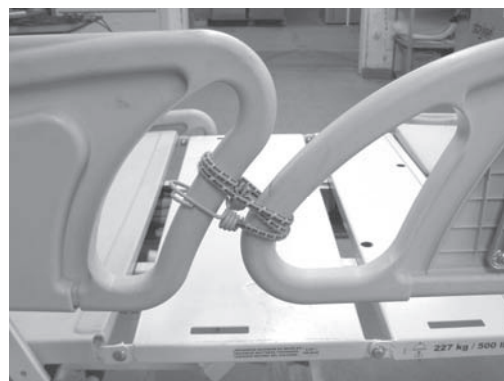

Figure 4
2. Secure the siderail to be repair to the adjacent siderail using a bungee cord (see Figure 4).
3. Using cutting pliers, cut the lower cable tie (E) holding the bottom part of the grey cable (there may be two cables) to the aluminum structure. The slack in the cable will be necessary for the following steps.